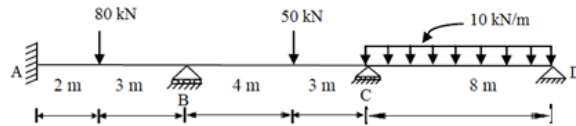

Figure 7
6. (a) Analyse the continuous beam ABCD shown in Figure 7 using Clapeyron's theorem of three moments. Draw shear force and bending moment diagrams. [7M]